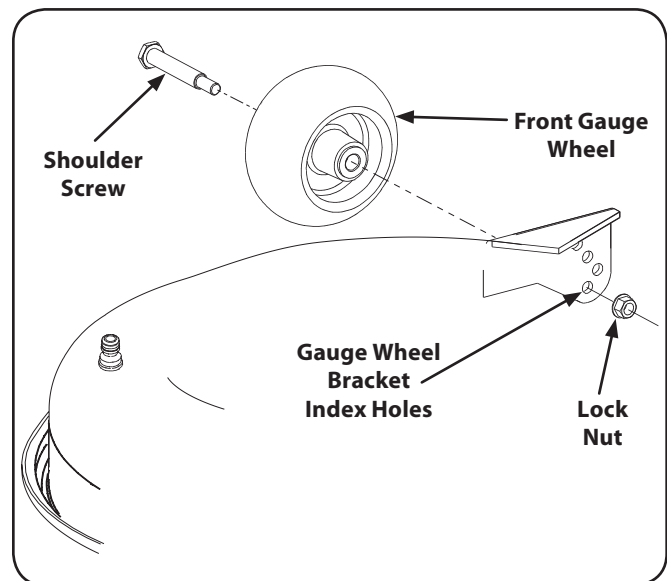

Figure 6-7
2. Remove the lock nut securing one of the front gauge wheel shoulder screws to the deck. Remove the gauge wheel and shoulder screw. See Fig. 6-7.